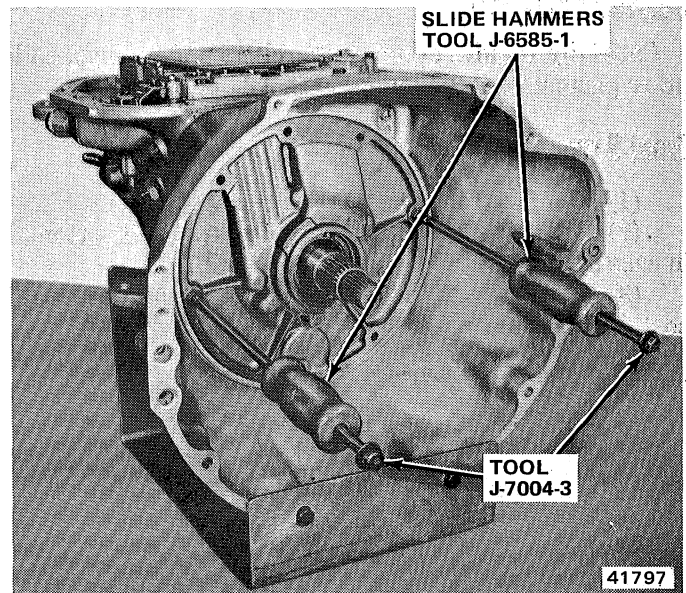

Fig. 2C-38 Oil Pump Removal
- (1) Tighten front band adjusting screw until band is tight around front clutch retainer. This prevents front clutch assembly from coming out with pump and damaging clutch discs.
- (2) Remove oil pump attaching bolts.
- (3) Install Slide Hammer Tool J-6585-1 on Slide Hammer Bolts Tool J-7004-3 (fig. 2C-38).